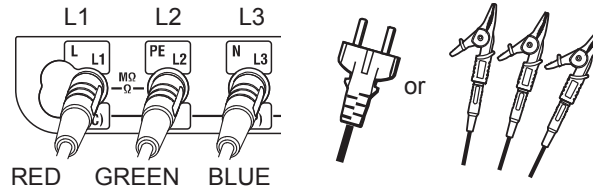

Fig.14-1
- (1) Press the Power switch and turn on the instrument. Turn the rotary switch and select the VOLTS function.
- (2) Insert the test leads into the instrument. (Fig.14-1)